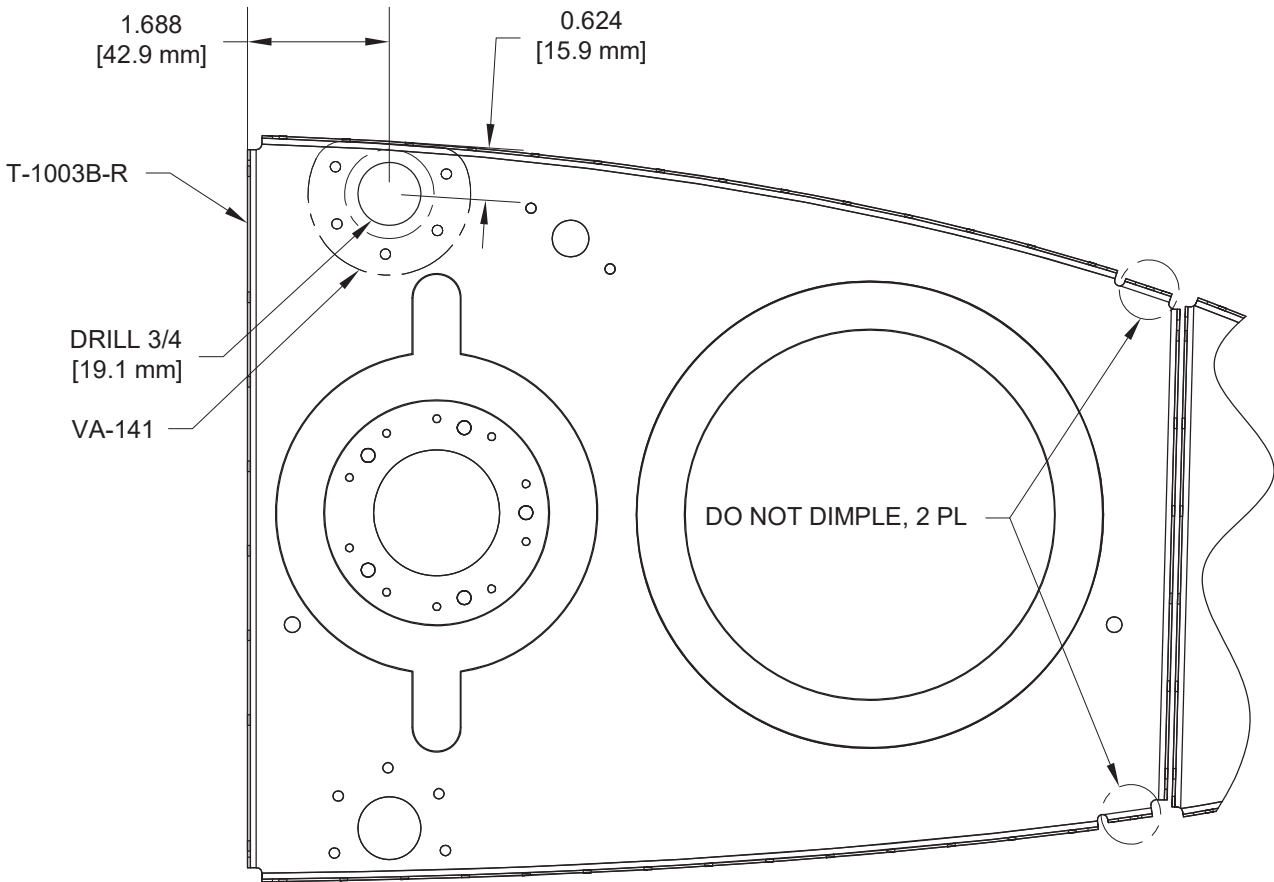

FIGURE 1: UPPER FLANGE PATTERN LOCATION
Step 3: Use a step drill to make a 3/4 [19.05mm] hole in the T-1003B-L & -R Tank Inboard Ribs - Aft as shown in Figure 1. See Section 5.24 for more information on using step drills.
Step 6: Dimple all the #40 holes in the flanges of all ribs used in the tank assemblies except the two small tabs on each T-1003B Tank Inboard Rib - Aft shown in Figure 1. There is limited access to the top flange aft hole in each T-1003C Tank Inboard Rib - Fwd Therefore a pop rivet dimple tool is needed.